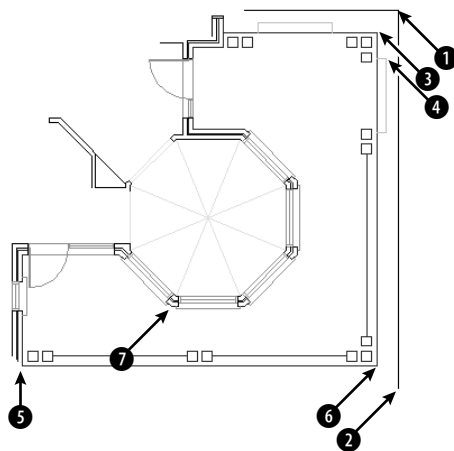

Figure 14-12: The house plan with the octagonal ceiling.
2. Save the file as `ab14-03.dwg` in your AutoCAD Bible folder. This is the same drawing used in the previous two exercises, as shown in Figure 14-12. OSNAP should be on with running object snaps for endpoint and intersection. If the Dimension toolbar isn't visible, right-click any toolbar and check **Dimension**.
Specify first extension line origin or <select object>: *Pick the endpoint at ❶ in Figure 14-12.*
6. The command repeats the Specify a second extension line origin or [Undo/Select] <Select>: prompt. Pick the endpoint at **2** in Figure 14-12 to place the dimension. Press Enter twice to end the command.
Specify first extension line origin or <select object>: Choose the endpoint at **5** in Figure 14-12.
8.  Choose Baseline Dimension from the Dimension toolbar. At the Specify a second extension line origin or [Undo/Select] <Select>: prompt, pick the endpoint or intersection at **6** in Figure 14-12. Press Enter twice to end the command.